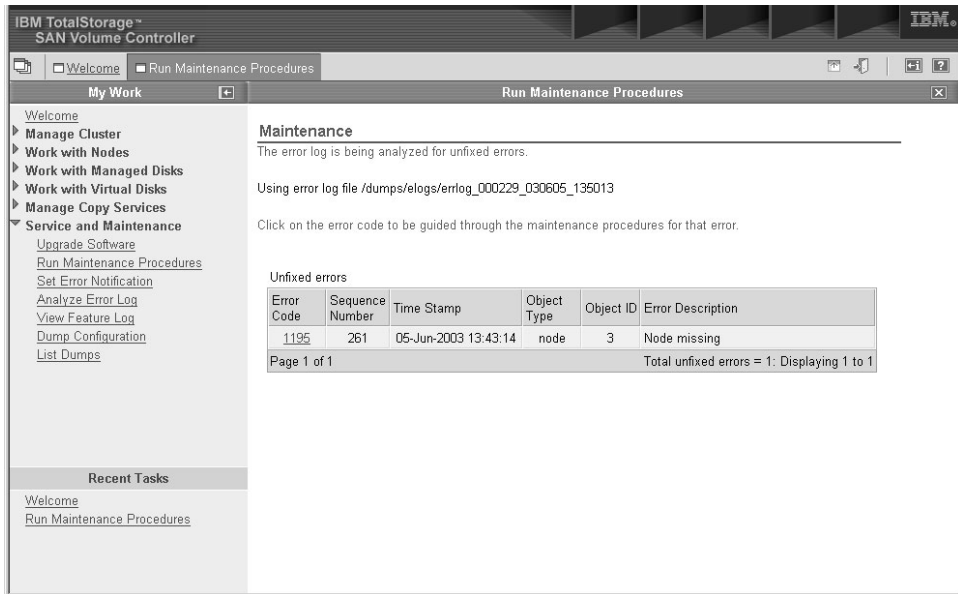

Figure 50. Example of what is displayed when you start analysis
2. From the panel for Maintenance Procedures, click Start analysis to display what is shown in Figure 50 on page 36.
Figure 50 shows a list of unfixed errors. This example shows that only one error needs to be repaired. The list might contain any number of errors that need to be repaired. The error at the top of the list has the highest priority and should always be fixed first. If you do not fix the higher priority errors first, you might not be able to fix the lower priority errors.